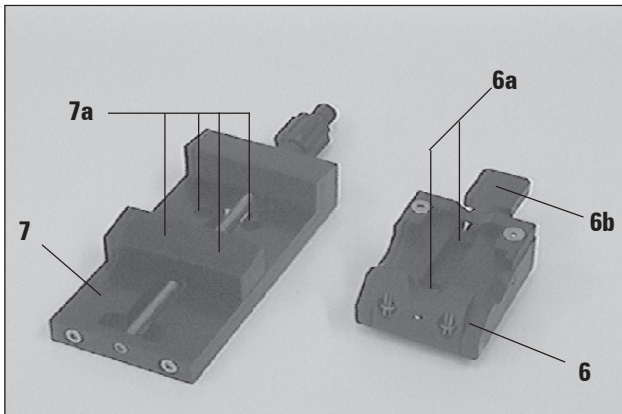

Fig. 13.1
- 6a 2 attachment screws (universal cassette clamp) - see Fig. 13.1
- 7a 4 attachment screws (standard specimen clamp) - see Fig. 13.1